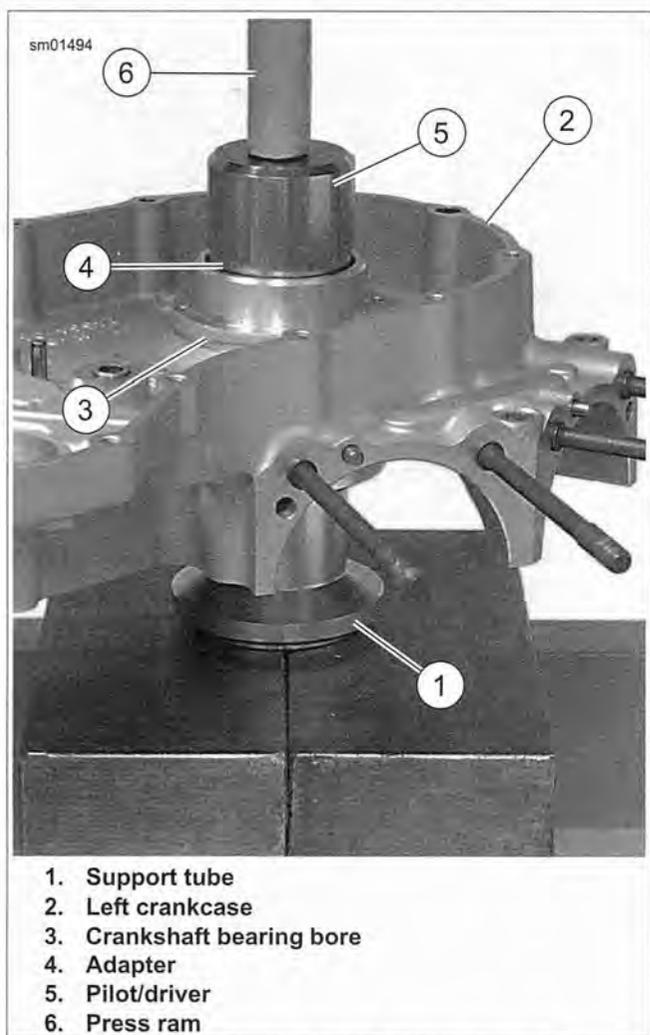

Figure 3-121. Removing Left Main Bearing from Crankcase
7. See Figure 3-121. Using CRANKCASE BEARING REMOVER/INSTALLER WITH ADAPTER (Part No. B-45655, HD-42720-2, HD-46663), press left main bearing out of the left crankcase.
- a. Place support tube (1) on press bed with recessed cup end facing up.
- b. With the outboard side of the left crankcase (2) facing upward, position crankshaft bearing bore (3) over support tube.
- c. Place adapter (4) over left main bearing. Insert pilot/driver (5) through adapter, through left main bearing and into support tube.
- d. Carefully apply pressure with press ram (6) until left main bearing drops free.